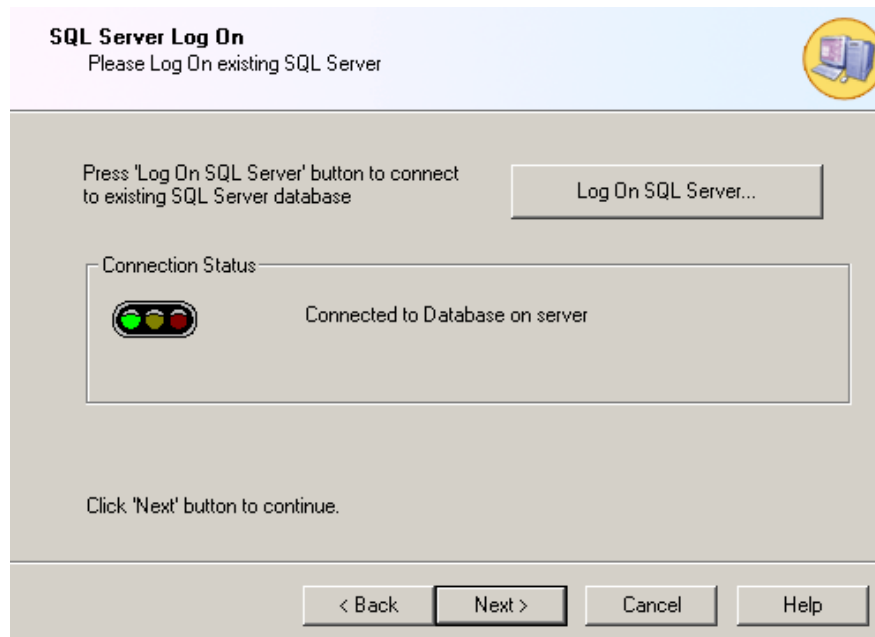

Figure 1.24. Connection to SQL Server Database Established
- When a connection to the SQL Server database is established, the traffic light icon turns green, and the **Next** button becomes enabled, as shown in **Figure 1.24**. Click the **Next** button to continue.